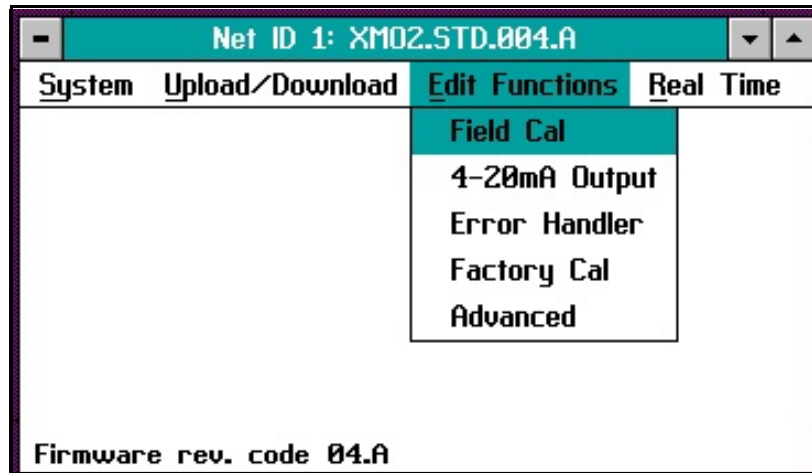
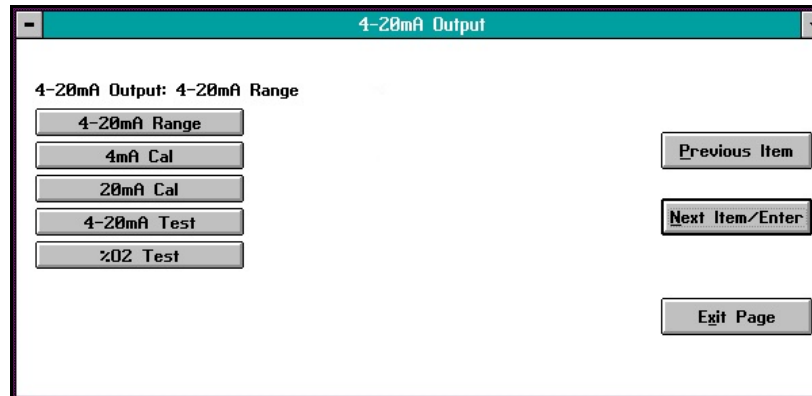

Figure 12: Edit Functions Menu
Figure 27: 4-20 mA Output Window
2. From the Instrument window, pull down the *Edit Functions* menu, as shown in *Figure 12 on page 30*.
To access the XMO2 calibration, pull down the *Edit Functions* menu from the Instrument window. This menu consists of the five commands displayed in *Figure 12* below. To access any of the commands, simply select it from the menu.
The XMO2 *Calibration Sheet* shipped with the unit lists the 4-20 mA analog output range that was set at the factory. IDM enables you to change this range via the *4-20mA Output* option. After you click on the *4-20mA Output* button from the *Edit Functions* menu (Figure 12 on page 30), a window similar to Figure 27 below opens. Clicking on any option opens the window for that option, while clicking on *Next Item/Enter* opens the menu listed on the status line above the options.
Note: Clicking on the *Next Item/Enter* button selects the option listed on the status line above the option buttons (*4-20mA Range* in Figure 27 above). The option listed on the status line in any window is the option that was chosen the last time that menu was used.